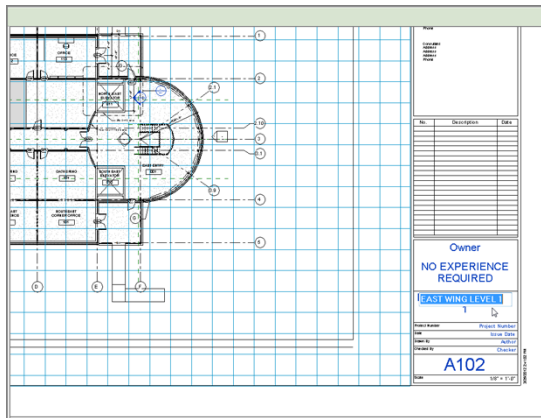

FIGURE 14.7: Changing the title-block information
1. With Sheet A102 open, zoom in to the right side of the view, as shown in Figure 14.7.
4. Click into the text that says *Unnamed*, and type EAST WING LEVEL 1 (see Figure 14.7).